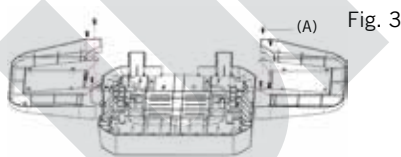

Fig. 3
6. Proceed by pressing the side trays [8] into the corresponding brackets of the grill housing [9], as shown in Fig. 3. Make sure that both parts can only be attached to one side at a time. The side tray with the small hooks must be attached to the left side of the housing. Align the screw